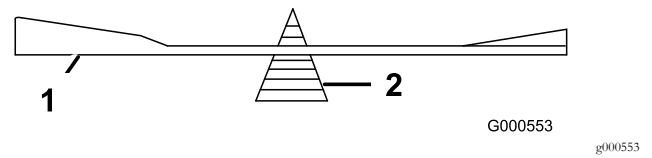

Figure 63
2. Check the balance of the blade by putting it on a blade balancer (Figure 63).